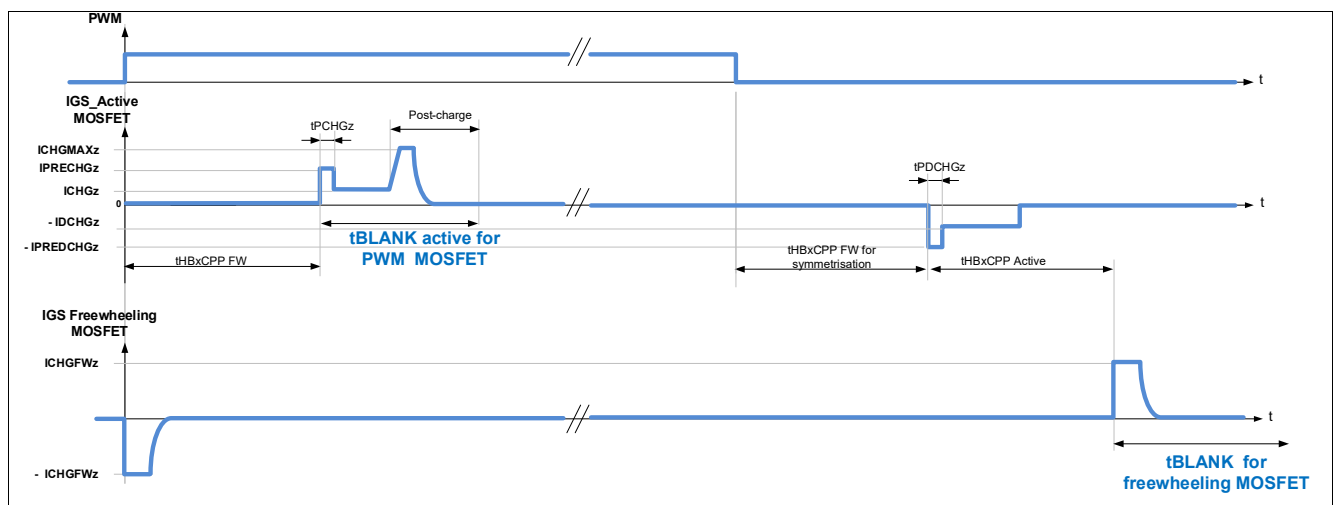
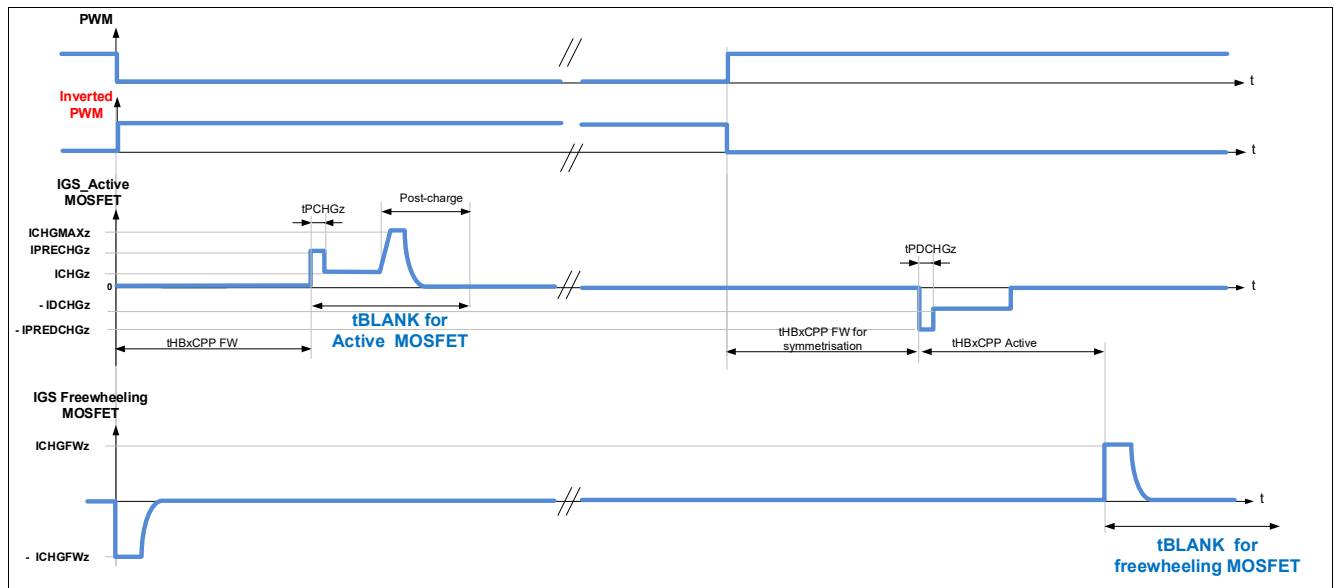

Figure 34 Blank time for half-bridges in PWM operation, detection of generator mode enabled (**EN_GEN_CHECK** = 1), motor operating as load
Figure 35 Blank time for half-bridges in PWM operation, detection of generator mode enabled (EN_GEN_CHECK = 1), motor operating as generator
- The blank time of the Active MOSFET starts at the expiration of the cross-current protection time of the FW MOSFET (**tHBxCCP FW**). Refer to **Figure 34** and **Figure 35**.
- The blank time of the FW MOSFET starts after expiration of the cross-current protection time at turn-off of the Active MOSFET (**tHBxCCP Active**). Refer to **Figure 34** and **Figure 35**.